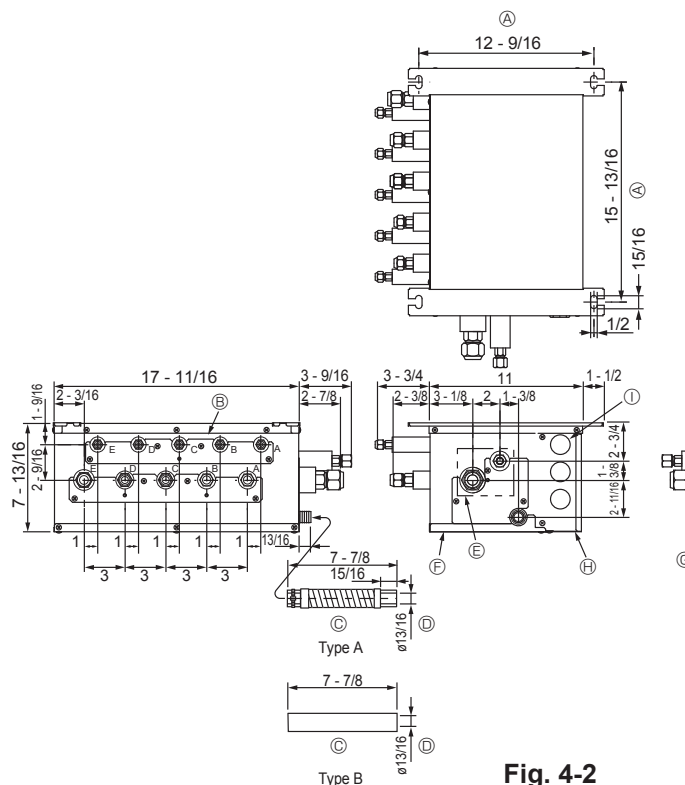

Fig. 4-2
■ PAC-AKA51BC (Fig.4-2)
- (1) Install the suspension bolts (procure locally) at the specified pitch (Fig. 4-2, 4-3).
- (2) Fit the washers and nuts (①, ②, procure locally) to the suspension bolts.